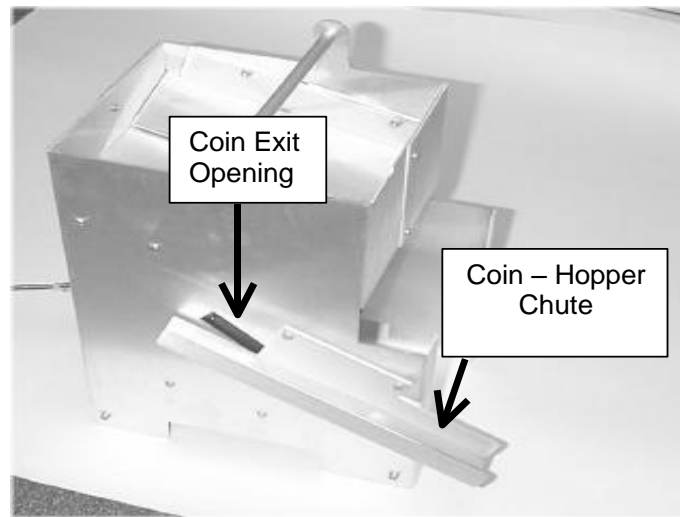

Figure 31. Hopper View - Coin Exit Opening and Chute
3. Place the hopper-cube back into the metal housing and replace the two screws you removed previously. Be sure that the coin exit opening of the hopper-cube is properly aligned with the exit chute of the metal housing. (See Figure 31.)